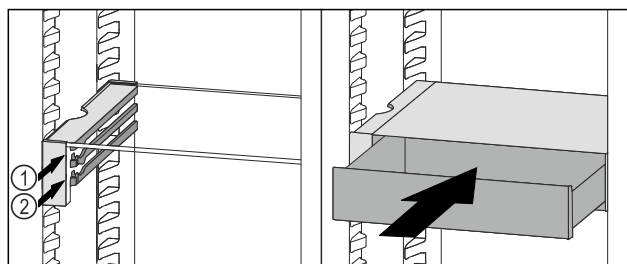

Fig. 121
- Place the VarioSafe drawer behind the stoppers on desired rib *Fig. 121 (1)* or *Fig. 121 (2)*.